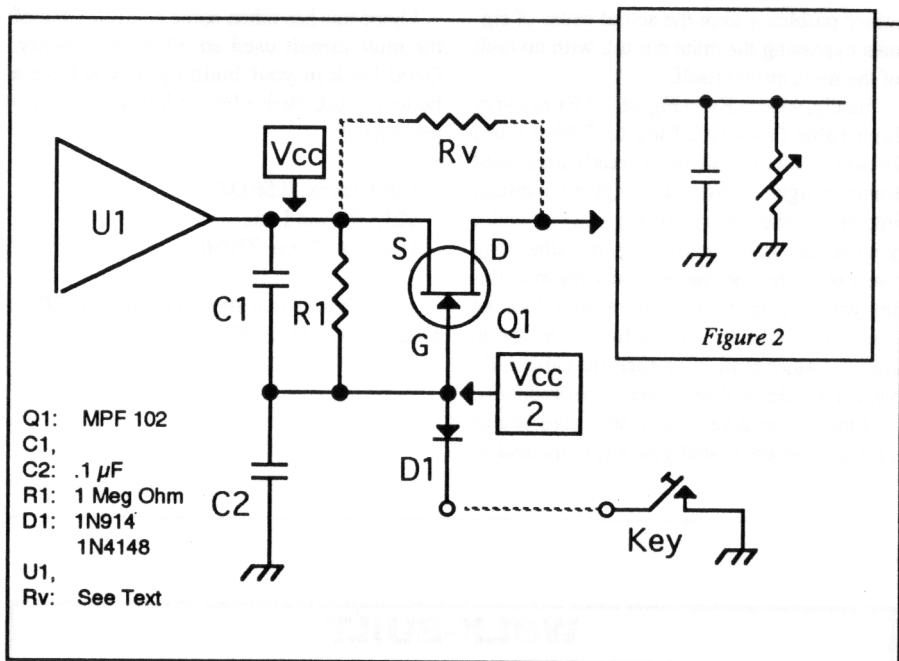

Figure 1
**Circuit Description:** The receiver mute circuit in Figure 1 is found in many kits of popular receiver and transceiver articles published over the last decade. It is comprised of C1, C2, R1, Q1, D1 (and Rv).
both AF (Audio Frequency) and DC voltage. In Figure 1, we use the DC voltage from U1, through bias voltage dropping resistor R1 (a 1 Meg ohm resistor) to bias (turn on) the gate of Q1 just enough to present an acceptable impedance (100-300 ohms) to U1 output and still pass through the received signals. This bias voltage to Q1 Gate is roughly half the Source voltage to Q1 (bias voltage =  $V_{cc}$  12). When grounding the Q1 gate, such as keying the circuit to ground, you remove the Q1 gate "turn-on" voltage and Q1 opens, (turns off) thus breaking the circuit and preventing signals from passing. Diode D1 allows positive voltage to pass only one direction (to ground when the key is grounded) and prevents unknowns from entering into the circuit. C1 is basically a bypass capacitor (during transmit) that doubles as part of the timing circuit. C2 is primary in determining the on-off timing sequence of this mute circuit. The secret to making this circuit operate properly in your project is to control the on-off timing of Q1 so at "key-up" you do not get a key-click or "pop" or thump in your speaker or phones.
**TIMING Circuit:** In Figure 1, C2 is the primary timing capacitor that must be recharged. At key up, the grounding path through D1 is opened (removed) allowing the voltage to return to the gate of Q1, *unless the voltage has a lower resistance path to go elsewhere* C2 (now empty from being grounded) is our alternate, lower resistance route for that short time it takes to charge. For the very short time it takes to refill C2, the bias voltage remains removed from Q1, keeping Q1 turned off (open). After C2 is charged, bias voltage to the gate of Q1 turns it on and the received signals are again allowed to pass.
Finally, what is  $R_v$  in Figure 1?  $R_v$  is a very high value (usually 2 Meg to 5 Meg ohm) bypass resistor that allows a greatly attenuated transmit signal to bypass the Q1 mute circuit into your audio chain, allowing you to monitor your *actually transmitted signal* rather than use a separate sidetone oscillator for monitoring your keying. This circuit resistor does not meet all needs, so it is included strictly to inform rather than offer specific values.  $R_v$  values should be determined experimentally, and the values given above will give you an idea as to where to start your experimentation.